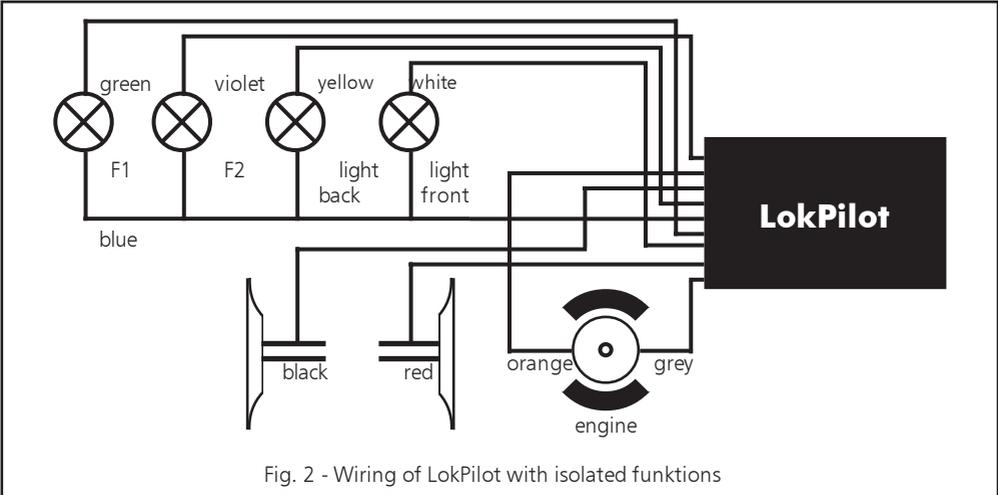

Fig. 2 - Wiring of LokPilot with isolated funktions
a) If directional headlights and functions are isolated from the locomotive body proceed as per figure 2.
In the case as per fig. 2 you have to connect the second pole of all light bulbs or other loads to the blue wire. The blue wire must not be connected to the chassis!
Use only digital smoke generators (e.g. Seuthe No. 11) for locomotives whose light and function outputs are connected as shown in figure 2. All other smoke generators may draw too much current. Some commercially available smoke generators have a higher nominal current than 250 mA!